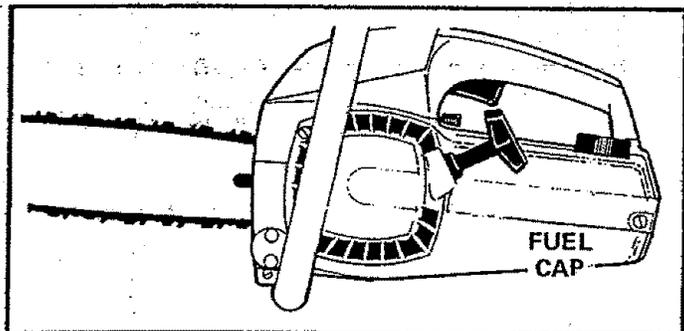

Figure 13
- Avoid over filling the fuel tank. Allow 3/4 inch for expansion. Tighten Fuel Cap securely. Figure 13.